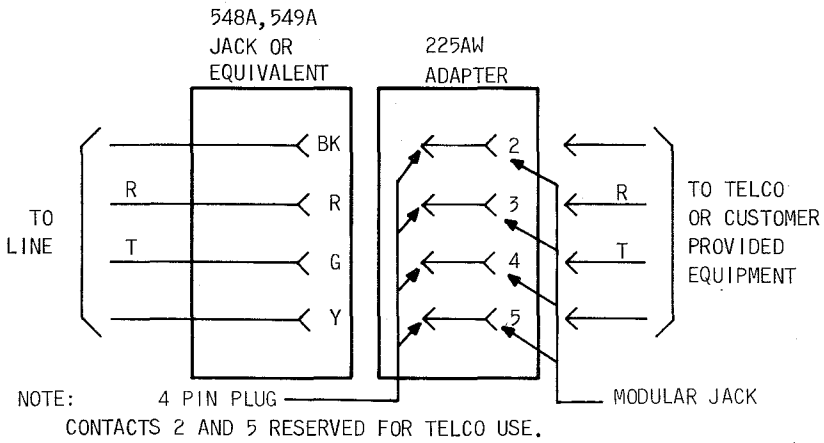

Fig. 4—Connections for USOC RJ1X, 4-Pin Jack to Modular Jack
2.01 USOC RJA1X: This arrangement uses a translucent 225AW adapter (Fig. 1) with a Bell System Logo to provide physical compatibility between the modular plug on the CPE and an existing 4-prong jack such as a 548A or 549A (Fig. 4). Tip and ring are always connected through to the CPE. A and A1 or other leads will appear in the adapter if connected in the existing jack.